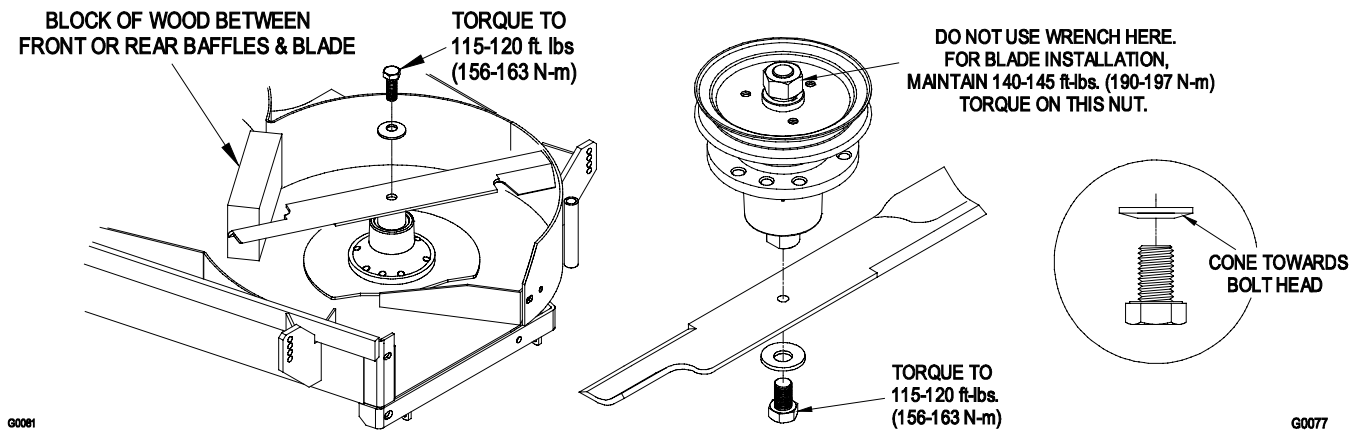

FIGURE 5
- d) Re-install the blades (if they were removed) by placing a block of wood between the front or rear baffles and the blade then torque the blade bolts to 115-120 ft. lbs (156-165 N-M). Be sure the spring disk washer cone is installed toward the bolt head. (See Figure 5).